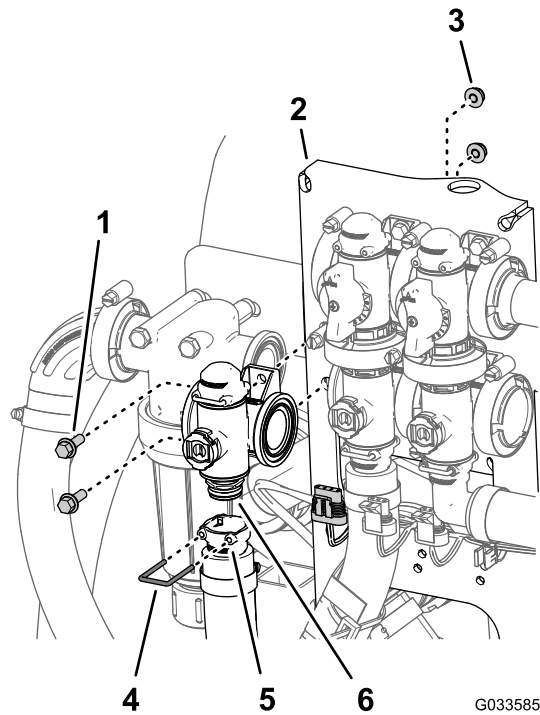

Figure 111
2. Remove the retainer that secure the outlet fitting to the manifold coupling for the rate control valve (Figure 111).
3. Remove the 2 flange-head bolts (1/4 x 3/4 inch) and 2 flange locknuts (1/4 inch) that secure the rate control valve to the valve mount and remove the valve manifold from the machine (Figure 111).